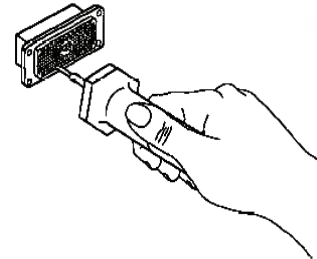

Figure 19. Unlocking Contact Retention Mechanism with Unwired Contact Removal Tool
- e. Insert removal tool tip into contact cavity to butt contact wire barrel; then slide removal tool sleeve over contact and exert pressure until sleeve bottoms (Figure 19).